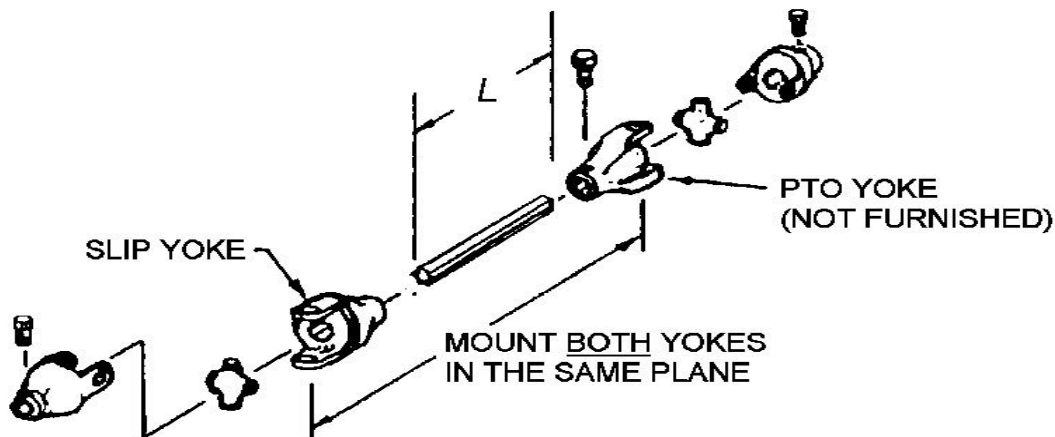

Figure 6 - Drive Shaft Assembly
5. Determine the exact length "L" of the drive shaft (Figure 6). The drive shaft should be kept as short and level as possible.
9. Assemble each U-joint to the hex drive shaft and install the drive shaft assembly. After installing, secure the PTO U-joint to the drive shaft using 3/8" x 5/8" drilled hex head set screw (furnished). Safety wire all (3) screws to insure that they do not loosen.
10. For additional pump and drive shaft mounting instructions, refer to the manufacturer's instructions included with the pump. Refer to Figures 6 and Dwg. 520078.